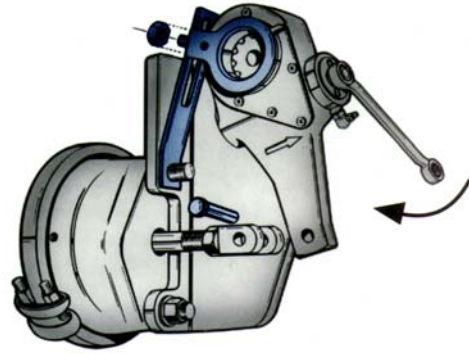

Figure 20 – Adjusting Hex
5. Install the brake adjuster on the camshaft with the adjusting hex pointing **away** from the brake chamber (See Figure 20).